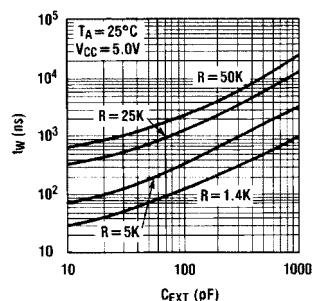

FIGURE 1.
3. The pulse width is essentially determined by external timing components RX and CX. For CX < 1000 pF see Figure 1 design curves on tW as function of timing components value. For CX > 1000 pF the output is defined as: